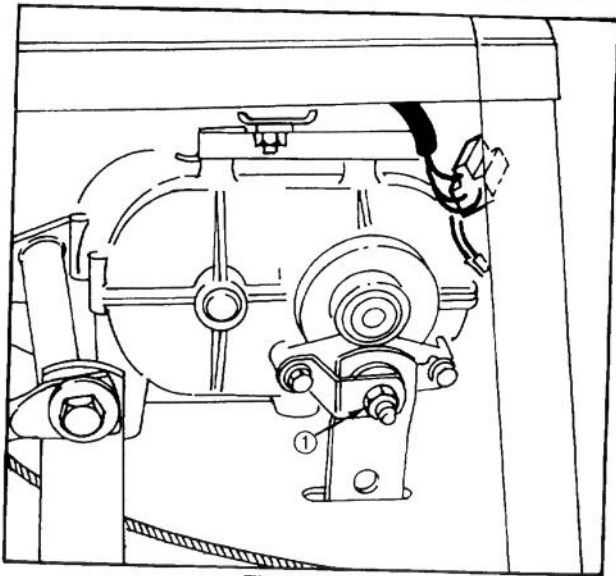

Figure 31
2. Tighten locknut approximately 1/4 turn clockwise (Fig. 31).